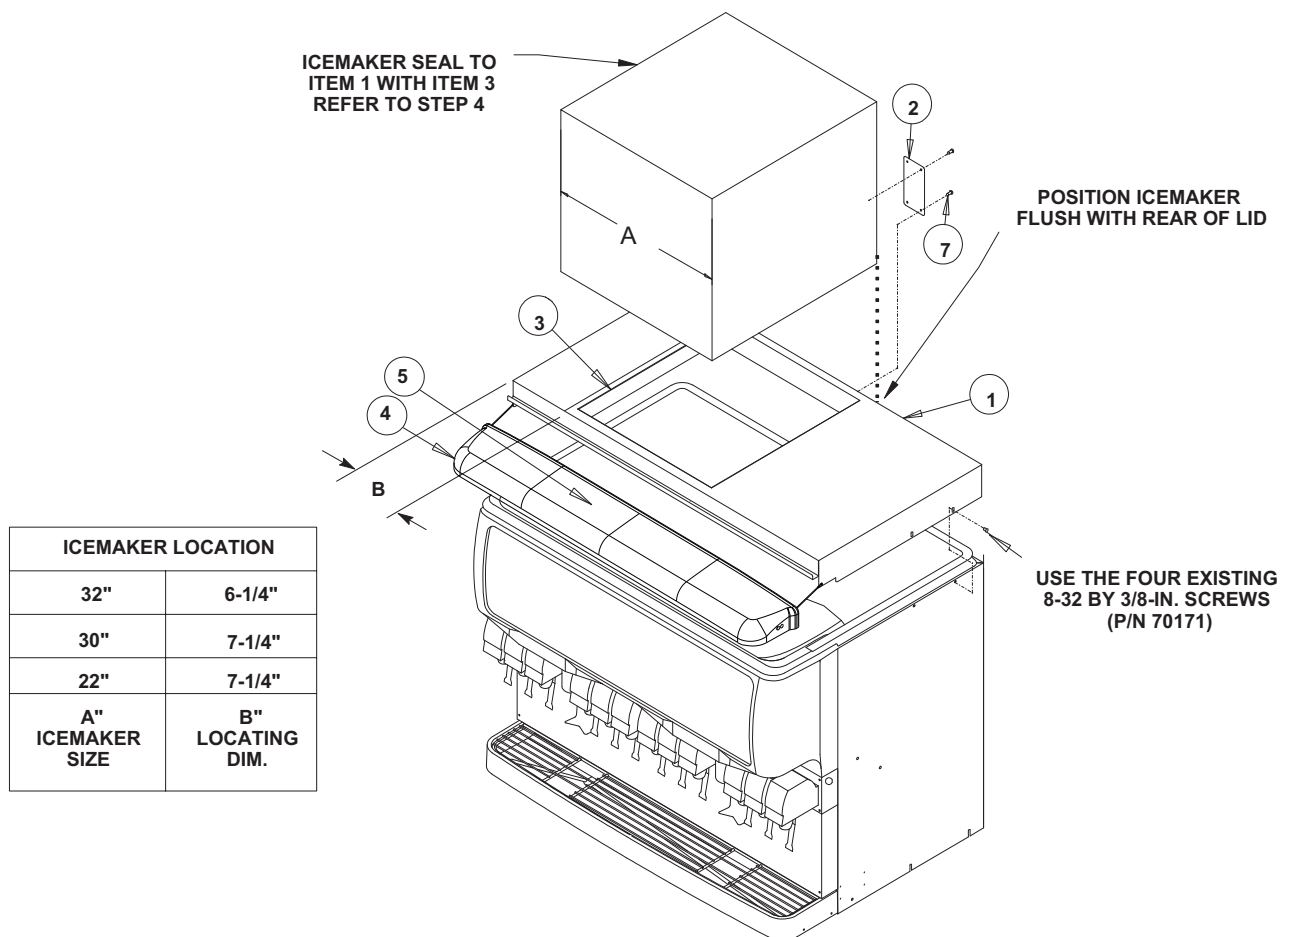

Figure 1.
4. Seal the Icemaker to the top of the dispenser after determining the correct location for the ice maker (see Figure 1).
7. Locate the cleaning caution label (item 5) on the manual ice fill cover (item 4) as shown in Figure 1. Place the manual fill cover in position over the flange on the lid assembly and the front access hopper opening.